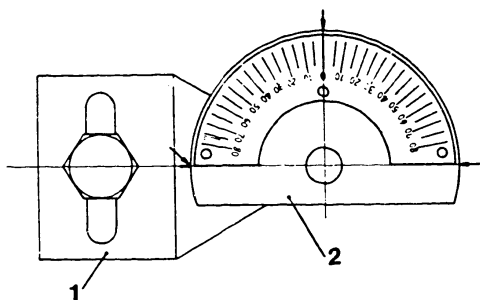

Fig. 134 Fixing the scale plate
- 1) Align the mark on the supporting bracket with the matching mark on the scale plate, then tighten the locknut. (Fig. 134)